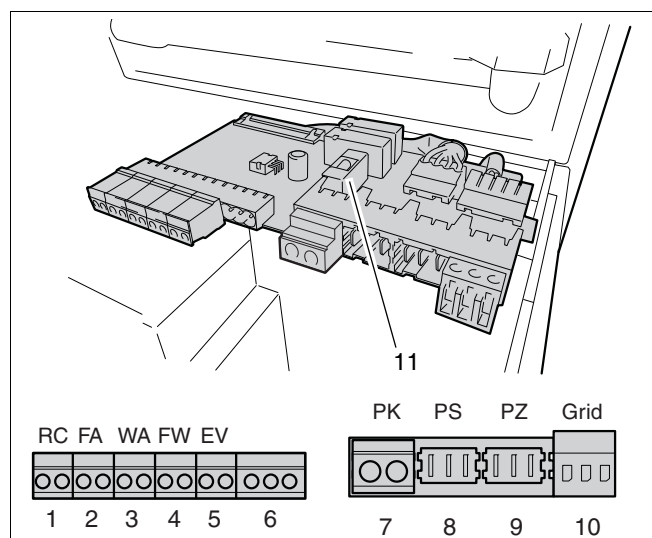

fig. 7 External connection board
- Dismantle the fuse holder (fig. 7, pos. 10).